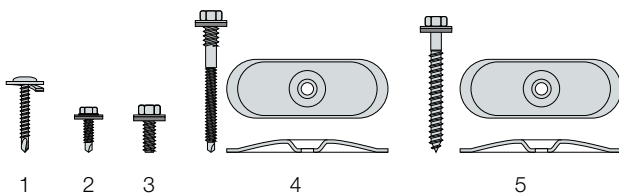

Fig. 4.3.4 Fasteners types
- a) fastening with self drilling screws with drilling washer (P37 - Fig. 4.3.4-1) into the steel structure:
- b) fastening with self-tapping screws with sealing washer (P04 - Fig. 4.3.4-2) into a steel structure or wood:
- c) fastening with self-tapping screws with sealing washer (P04 - Fig. 4.3.4-3) into steel, concrete or wood structure:
- c) fastening using self-tapping screws with sealing washer (P04 - Fig. 4.3.4-3) into steel, concrete or wood: